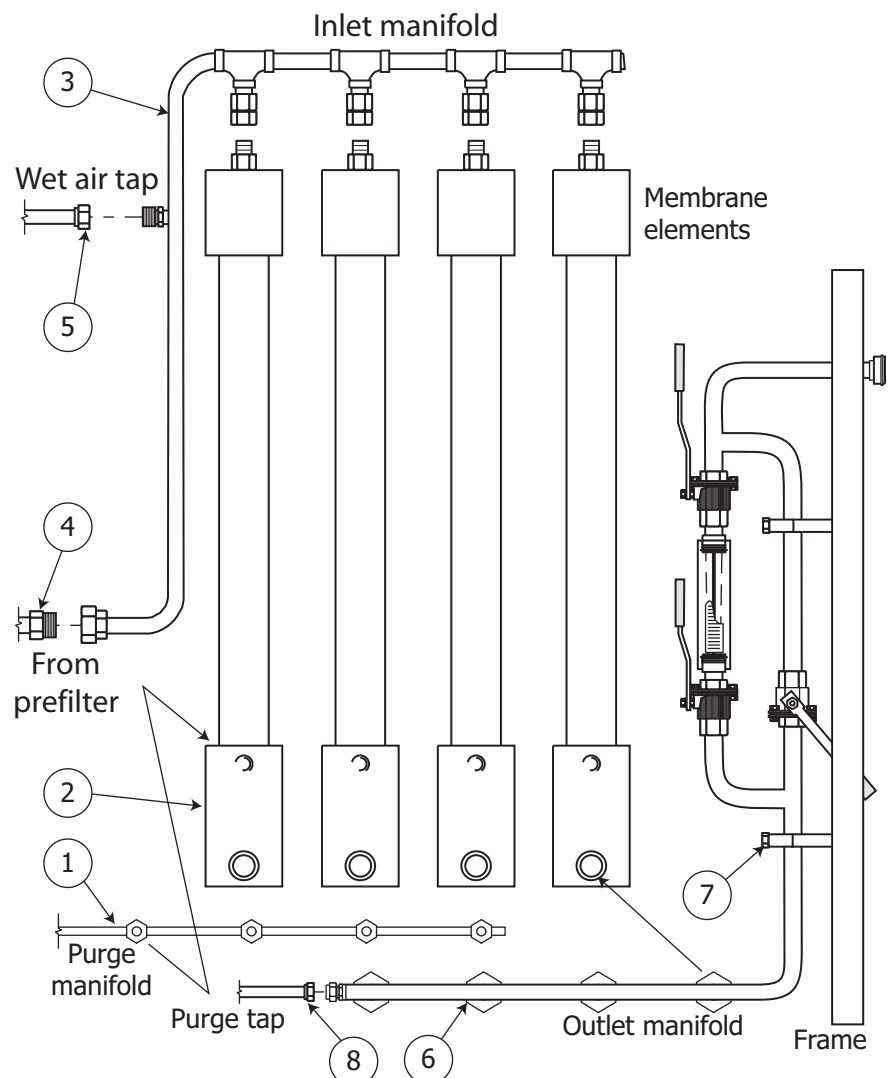

Figure 5. 6995 piping components
VI. Install the new piping (Figure 5).
- Tighten the pipe clamps (Figure 5, 7) securing the outlet manifold to the frame.